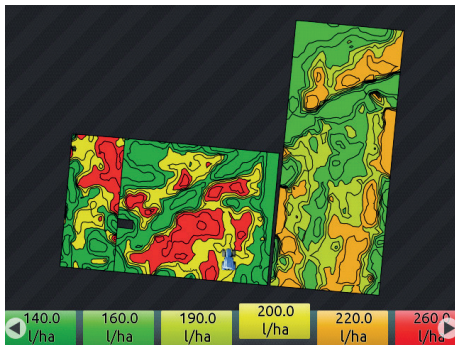

Fig. 263
- Proceed with the job. According to the position detected by the GPS receiver, the monitor will use the appropriate spray rate for the area that is being sprayed (Fig. 263).